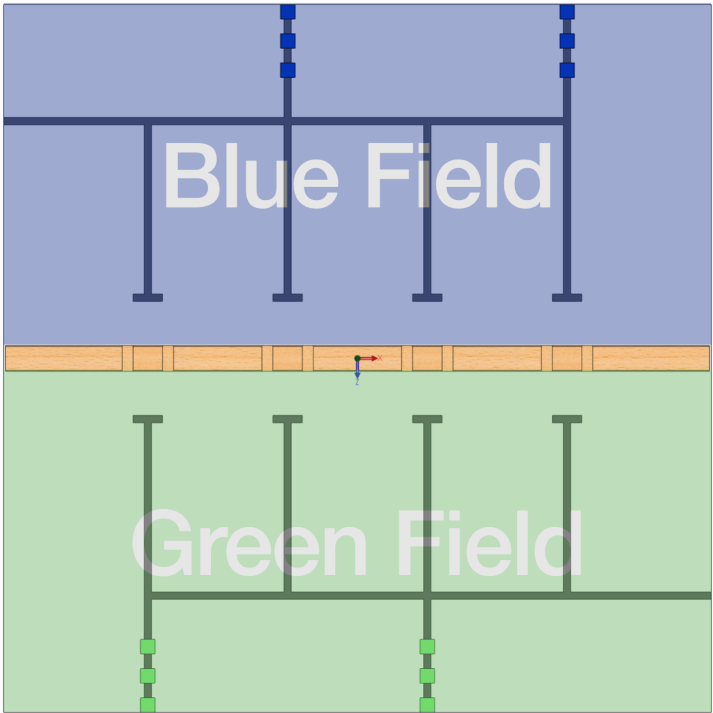

Figure 2: Field Definition.
- ☐ No portion of any CARRYER may trespass the WALL into opponent part of the field in Figure 2.